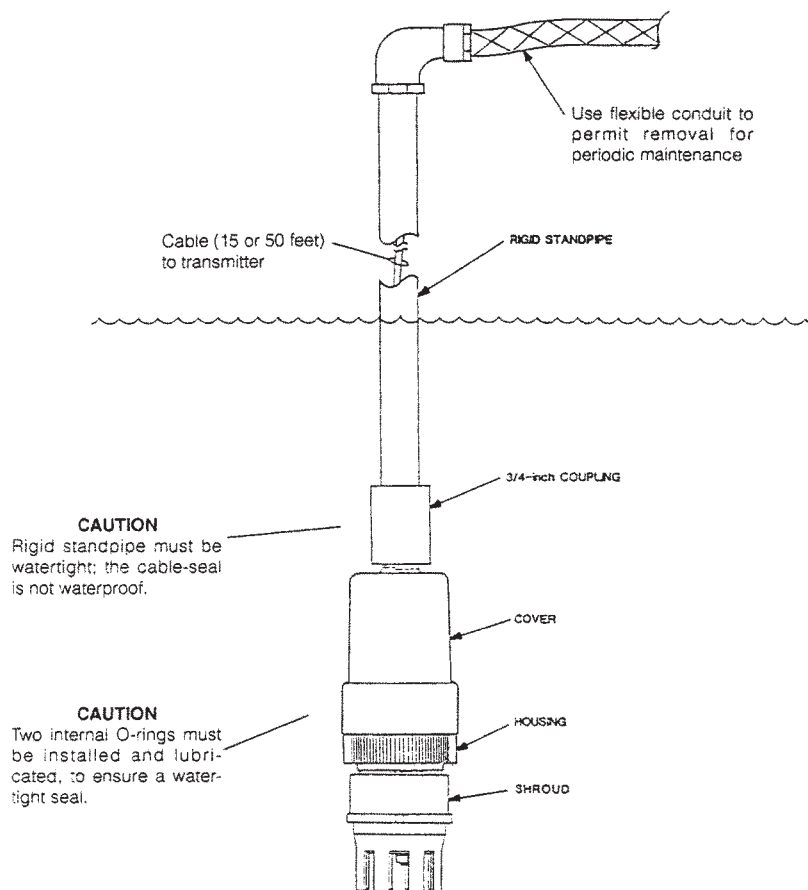

FIGURE 2-2. Submersion Installation Diagram
2.2 SUBMERSION INSTALLATION (Code 02). To install the sensor in process proceed as follows (see Figure 2-2):